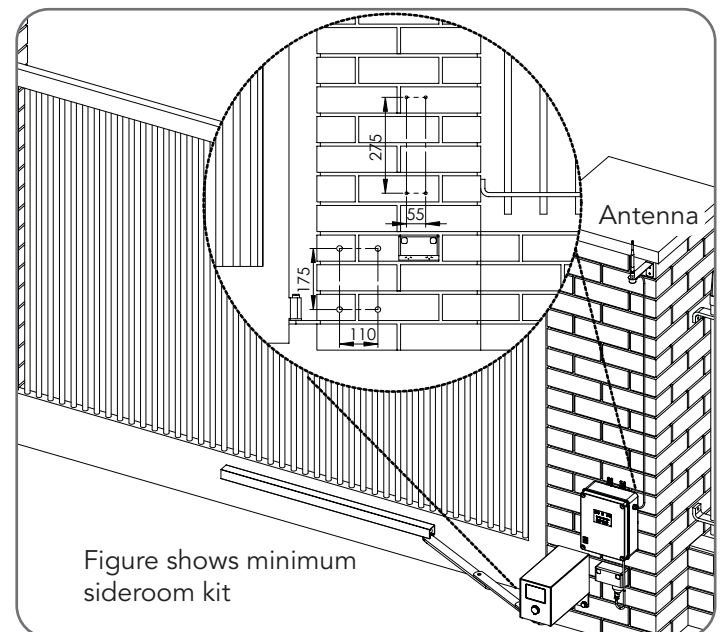

Fig 4.1
- The control box should be mounted near the drive unit using four (4) 6mm screws.
- Drill holes as per (Fig. 4.1). When locating the control box, allow ample space around the unit for easy access and wiring connections.